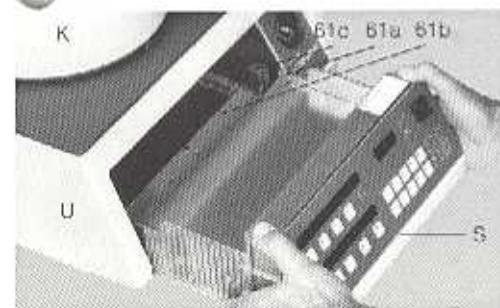

Fig. 6
Position the control unit (S) as shown in Fig. 6 so that it rests on the floor of the furnace base (U) in alignment with the apertures (61a) in the front panel (31) and push in a parallel direction.